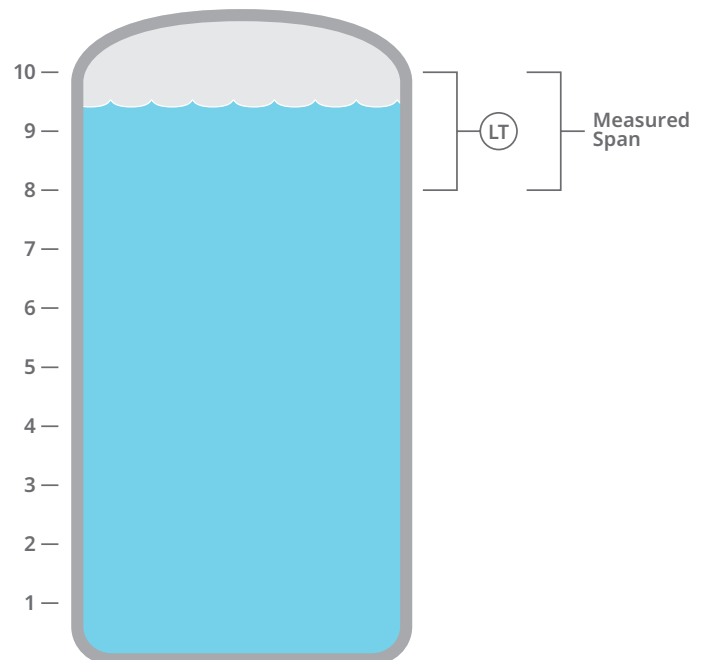

Figure 1.2.1: Level measurements
Level measurements are typically expressed in terms of feet or meters. Level may also be given in terms of percent full or percent of measured span. For example, the level of the vessel in Figure 1.2.1 could be expressed as 9 ft. (2.7 m), 90% full, or 50% of measured span. Measured span is the distance between the lowest and the highest level that a level transmitter (LT) can measure in a particular application. In Figure 1.2.1, the measured span is from 8 - 10 ft. (2.45 - 3 m).